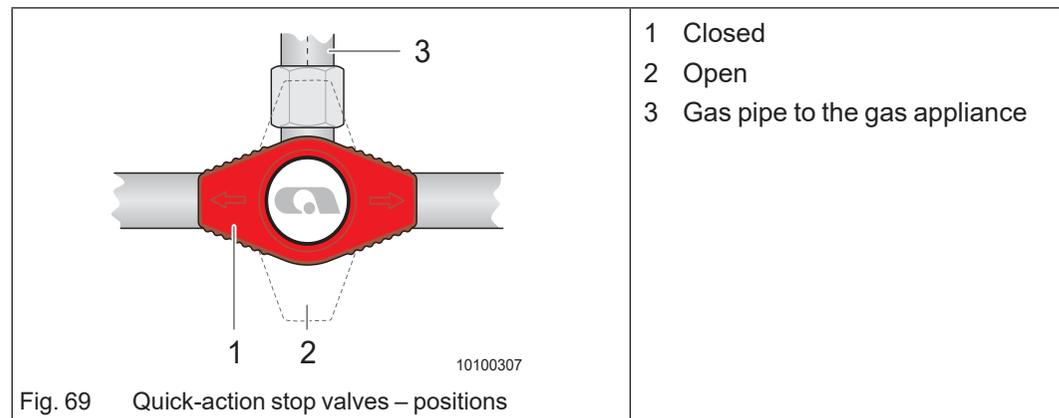

Fig. 69 Quick-action stop valves – positions
- Quick-action stop valve closed (Fig. 69/1): The arrows on the quick-action stop valve are perpendicular to the gas pipe leading to the gas appliance (Fig. 69/3).
- Quick-action stop valve open (Fig. 69/2): The arrows on the quick-action stop valve are positioned in the direction of the gas pipe to the gas appliance (Fig. 69/3).